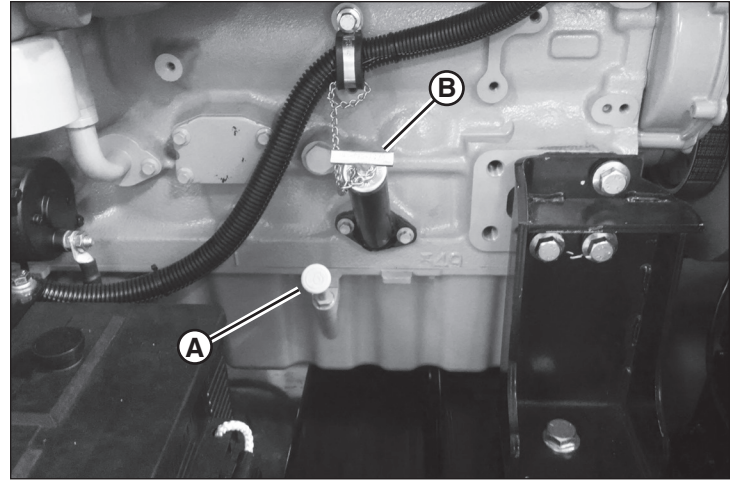

Figure 25
1. Remove the dipstick (A, Figure 25) from the engine. Oil level should read between FULL and ADD marks on the dipstick.
2. Add oil as necessary using the engine oil fill (B, Figure 25). See Oil Recommendations. Do not overfill.
4. Add engine oil using the engine oil fill (B, Figure 25). See Oil Recommendations. See Specifications for engine oil capacity.